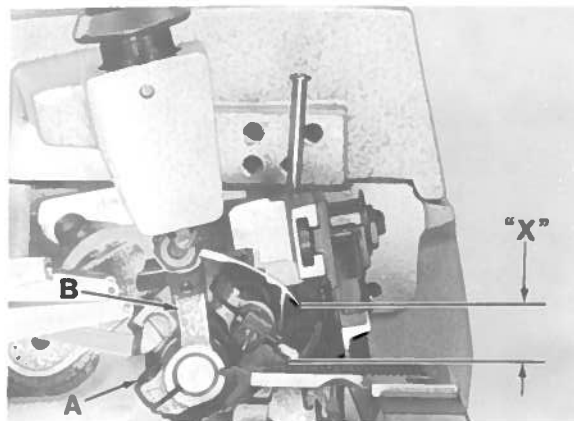

Fig. 6
If adjustment is required, remove fabric guard and looper thread pull-off. Loosen needle driving arm clamp screw (A, Fig. 6) and reposition arm to the right or left as necessary. Temporarily tighten clamp screw, (A), then proceed to check needle(s) height.
With needle driving arm at highest position, the tip of needle(s) should be "X" dimension from top of throat plate as shown in Fig. 6. See chart below.
If adjustment is required, loosen clamp screw (A, Fig. 6) and reposition arm (B) forward or rearward as required to obtain "X" dimension being careful not to disturb "NEEDLE ALIGNMENT". Tighten clamp screw (A), replace looper thread pull-off and fabric guard.